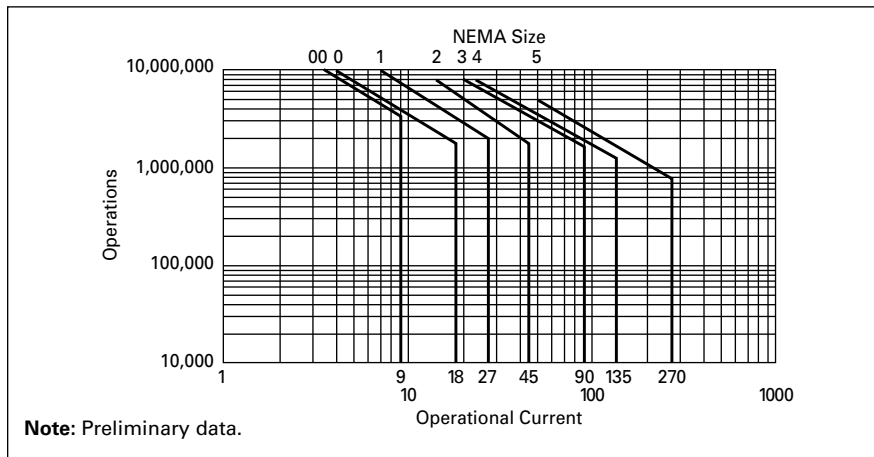
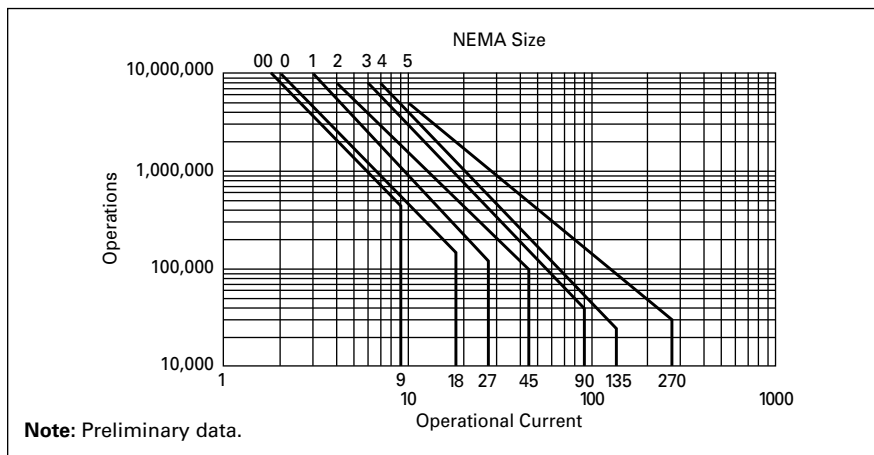

Figure A-1. Electrical Life — AC-3 Utilization Category
Figure A-2. Electrical Life — AC-4 Utilization Category
- Decide what utilization category the application is and choose the appropriate curve from **Figure A-1** or **Figure A-2**.